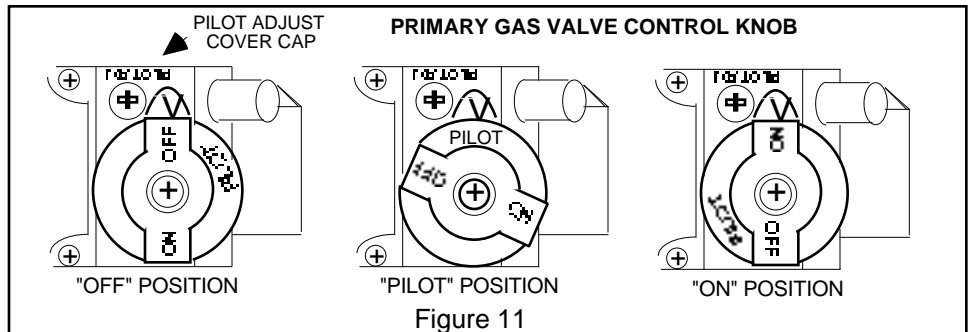
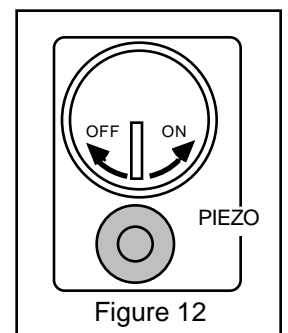

Figure 11
Figure 12
1. Depress and turn **Primary Gas Valve Control Knob** (located on valve behind Selector Switch Plate) clockwise to the "OFF" position. (Figure 11). Turn the **Rear Burner Control Valve** clockwise to "OFF" (Figure 12).
4. Turn **Primary Gas Valve Control Knob** counter clockwise to "PILOT" position. (See Figure 11)
6. Press **Piezo Ignitor Button** (Figure 12) to light pilot. Continue to hold in the **Primary Gas Valve Control Knob** until the Pilot flame remains lit when knob is released (approx 60 to 90 seconds). If Pilot does not remain lit, repeat steps 1. through 5. and allow more time after lighting the Pilot before releasing knob.
7. Turn the **Primary Gas Valve Control Knob** clockwise to "ON". This lights the front Ember Burner and allows gas to flow to the **Rear Burner Control Valve** (Figure 12). Control of the **Rear Burner** on and off and flame height may now be adjusted independently with the **Rear Burner Control Valve**. Turn the **Rear Burner Control Valve** counterclockwise to increase **Rear Burner** flame height or clockwise to decrease **Rear Burner** flame height.
8. For complete shutdown, slightly push in the **Primary Gas Valve Control Knob** (Figure 11) knob in and turn clockwise to "OFF".
2. If adjustment is necessary, use a narrow long stem screw driver to turn pilot adjustment screw (see Figure 11).